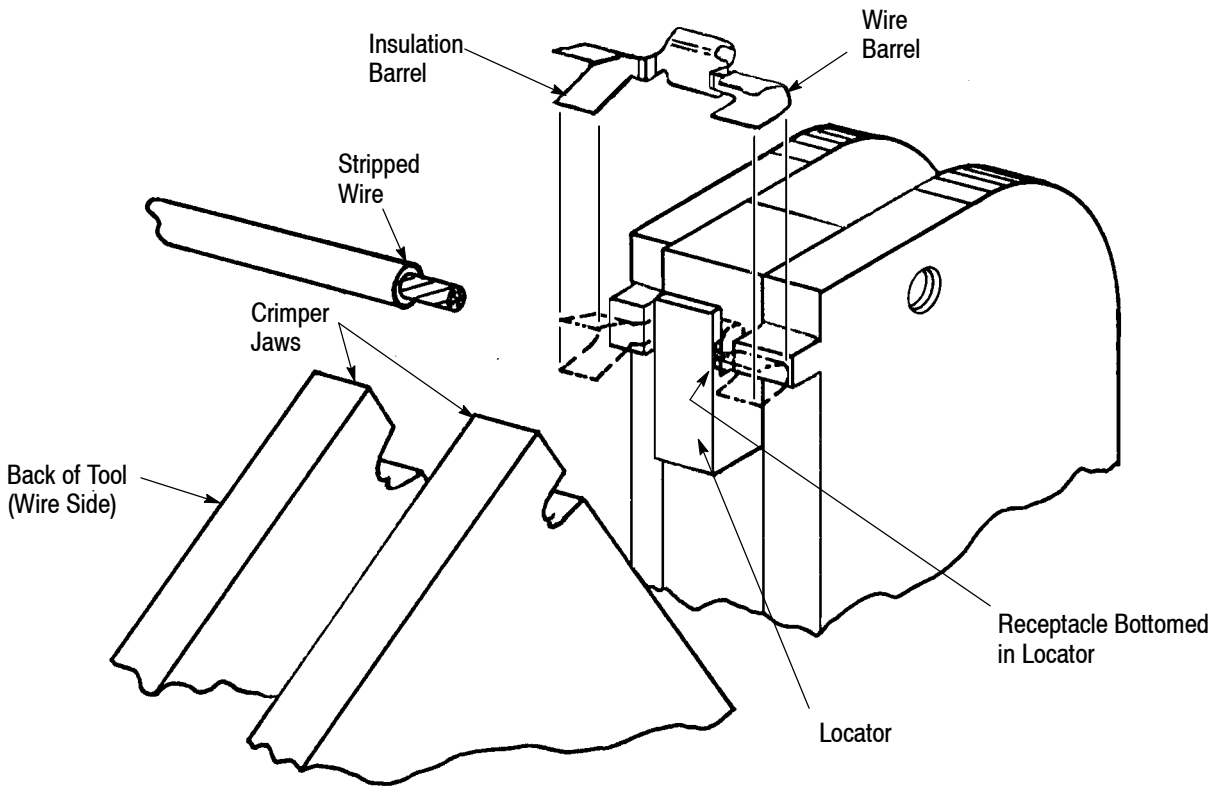

Figure 3
3. Insert the terminal into the locator. Make sure terminal insulation barrel and wire barrel are facing tool crimper jaws and tab receptacle is bottomed in locator. See Figure 3.